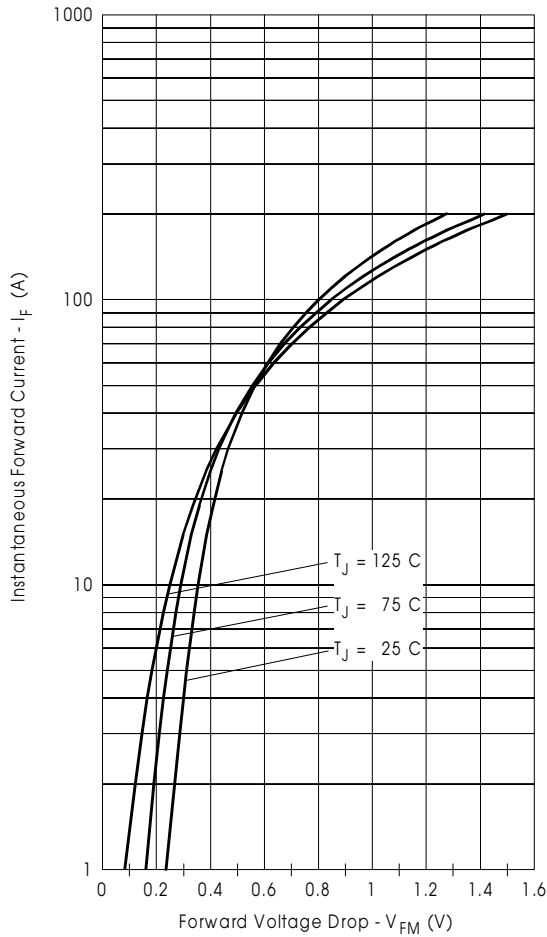

Fig. 1 - Maximum Forward Voltage Drop Characteristics
$V_{FM}$ Forward Voltage Drop (Per Leg) * See Fig. 1 (1)	Typ. Max.